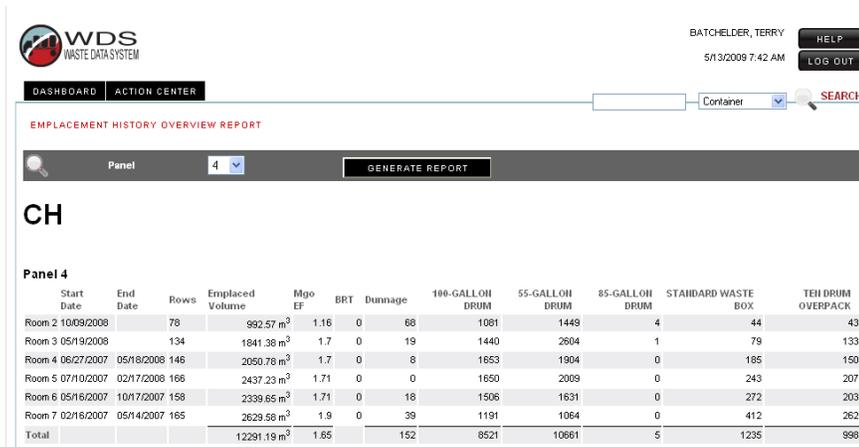

Figure 6-7 - Emplacement History
6.3.1 Select the **Panel** as shown in Figure 6-7.
6.3.2 Select the **Generate Report** button as shown in Figure 6-7